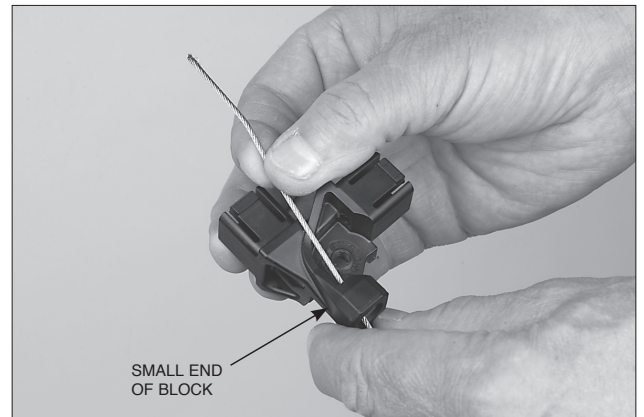

FIGURE 5-71
2. Thread the wire rope through the small end of the block into the bearing area to be used. See Figure 5-71.